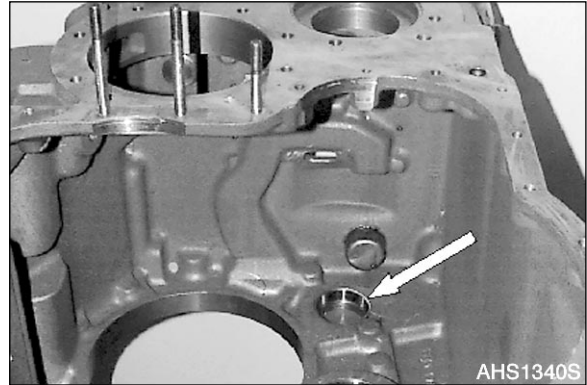

Figure 174
4. Insert outer bearing race (Figure 174) into the housing bore until contact is obtained.